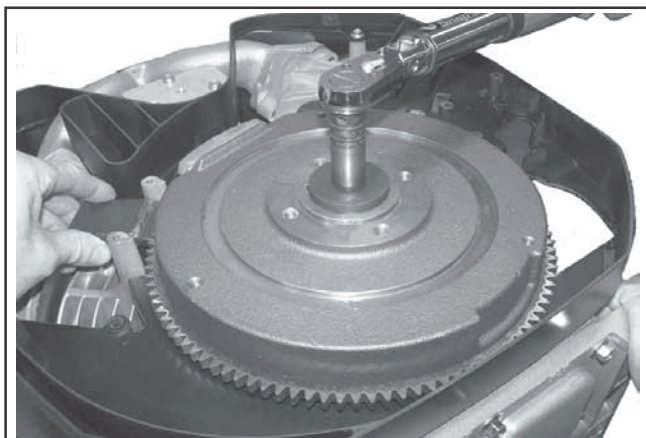

Figure 10-80. Torquing Flywheel Fastener.
4. Use a flywheel strap wrench or holding tool to hold the flywheel. Torque the hex flange screw securing the flywheel to the crankshaft to **67.8 N·m (50 ft. lb.)**. See Figure 10-80 shown on the next page.